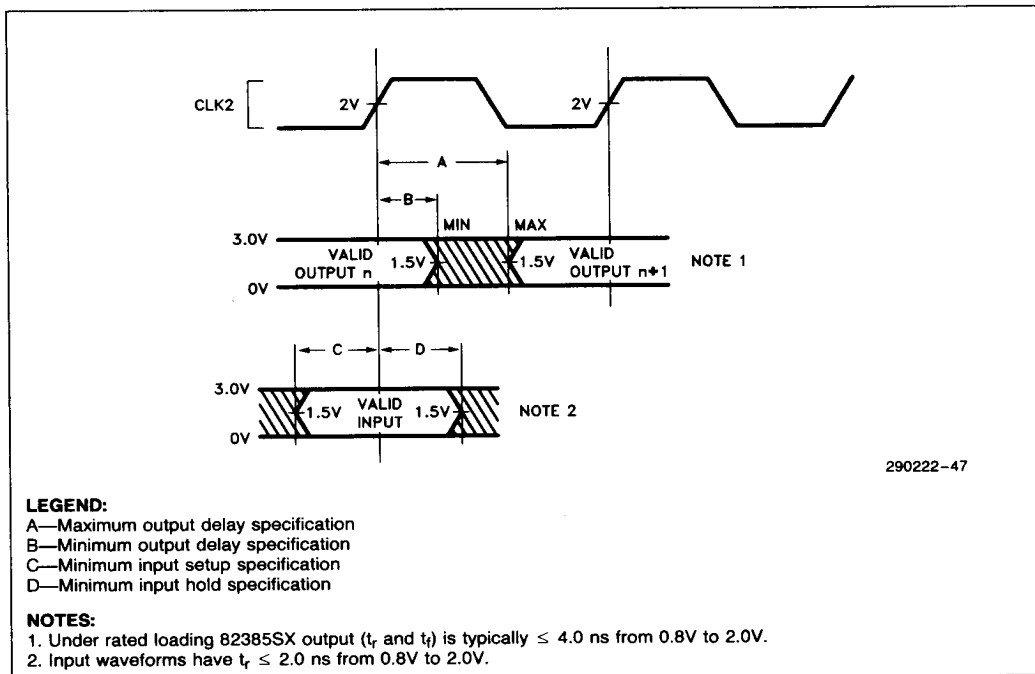

Figure 9-1. Drive Levels and Measurement Points for A.C. Specification
A.C. spec measurement is defined in Figure 9-1. Inputs must be driven to the levels shown when A.C. specifications are measured. 82385SX output delays